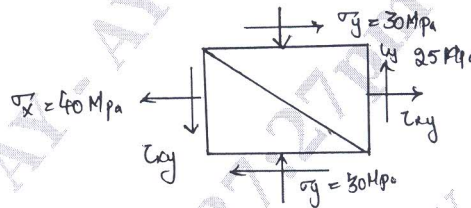

Fig.Q1(b)
- b. A point in a structural member subjected to plane stress as shown in Fig.Q1(b). Determine the following :